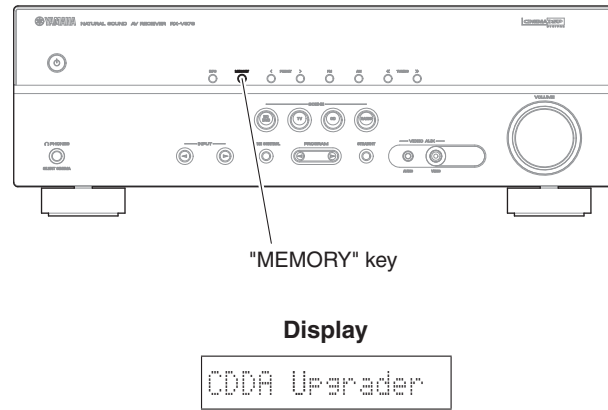

Fig. 5
1. While pressing the "MEMORY" key, connect the power cable to the AC outlet. (Fig. 5)
The FIRMWARE UPDATE mode is activated and "CDDA Upgrader" is displayed. (Fig. 5)